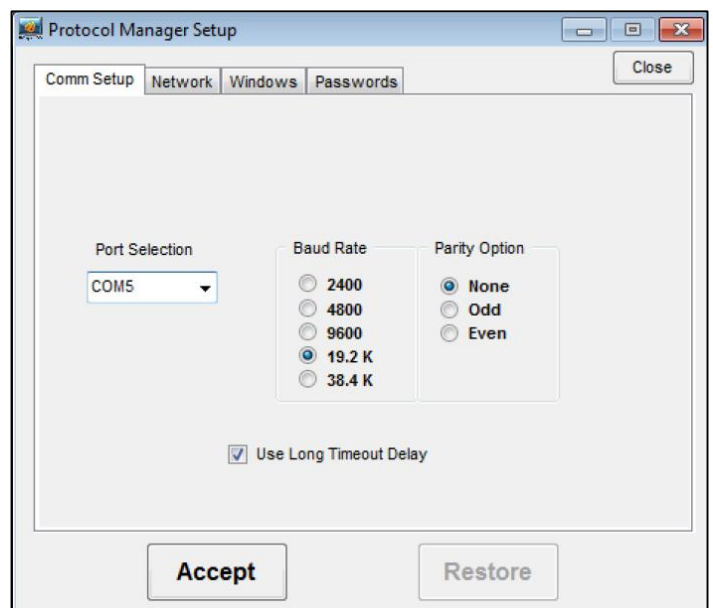

Figure 14. Comm Setup Tab.
2. Click **Comm Setup** and use the cursor to make the following selections corresponding to the selections made on each Protocol 3/Protocol Plus controller (Figure 14).
- a. If using Serial Communications, select or type in the appropriate port from the **Port Selection** drop down menu (Figure 14). Select the communication port that matches your host computer hardware.